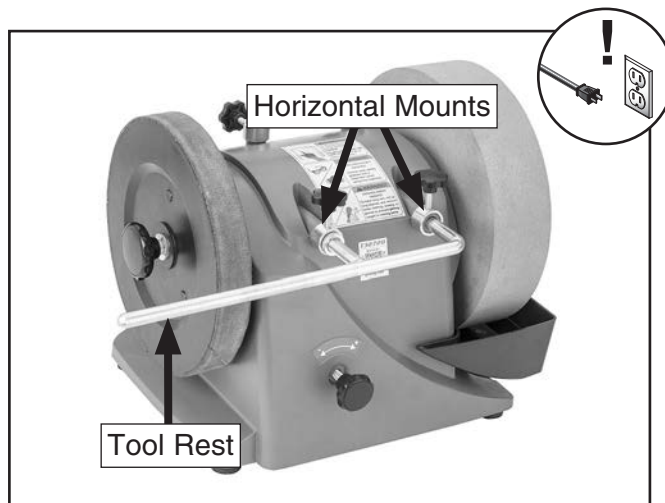

Figure 26. Tool rest installed in horizontal mounts.
2. Install tool rest in horizontal mounts as shown in **Figure 26**.